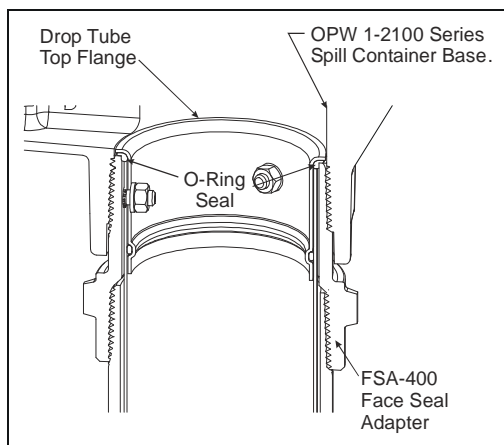

Figure 3
**Step 3: (See Figure 3 & 3A)**